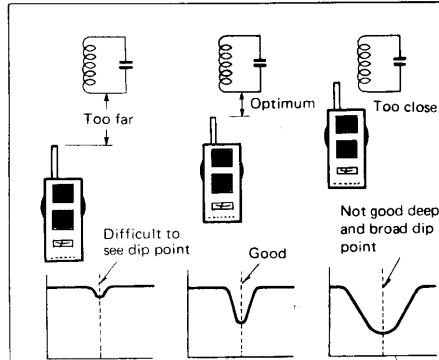

Figure 3 - Distance Adjustment for Accurate Dip Point
6. Bring the dip meter coil about 1 cm from the tuned circuit to be measured and slowly turn the dial. The oscillator signal energy will be absorbed by the tuned circuit at the resonant point and the meter will dip abruptly. (see Figure 3)